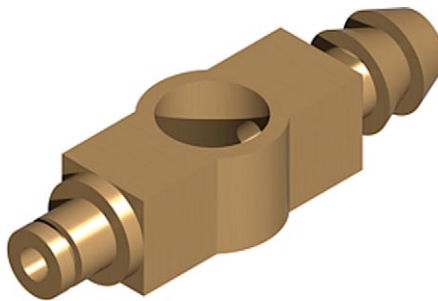

Fig. 18.16 Second example – 3D models
### Second example (Fig. 18.16)
- Isometric.** Render (Fig. 18.16).